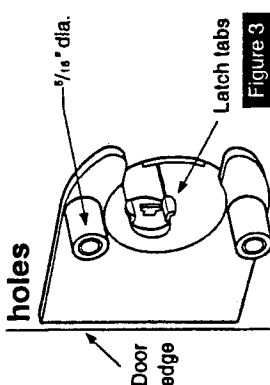

Figure 3
4. Install the latch and check the door swing. Latch tabs should project into the 2 1/8" diameter hole. See figure 3 in step 3.